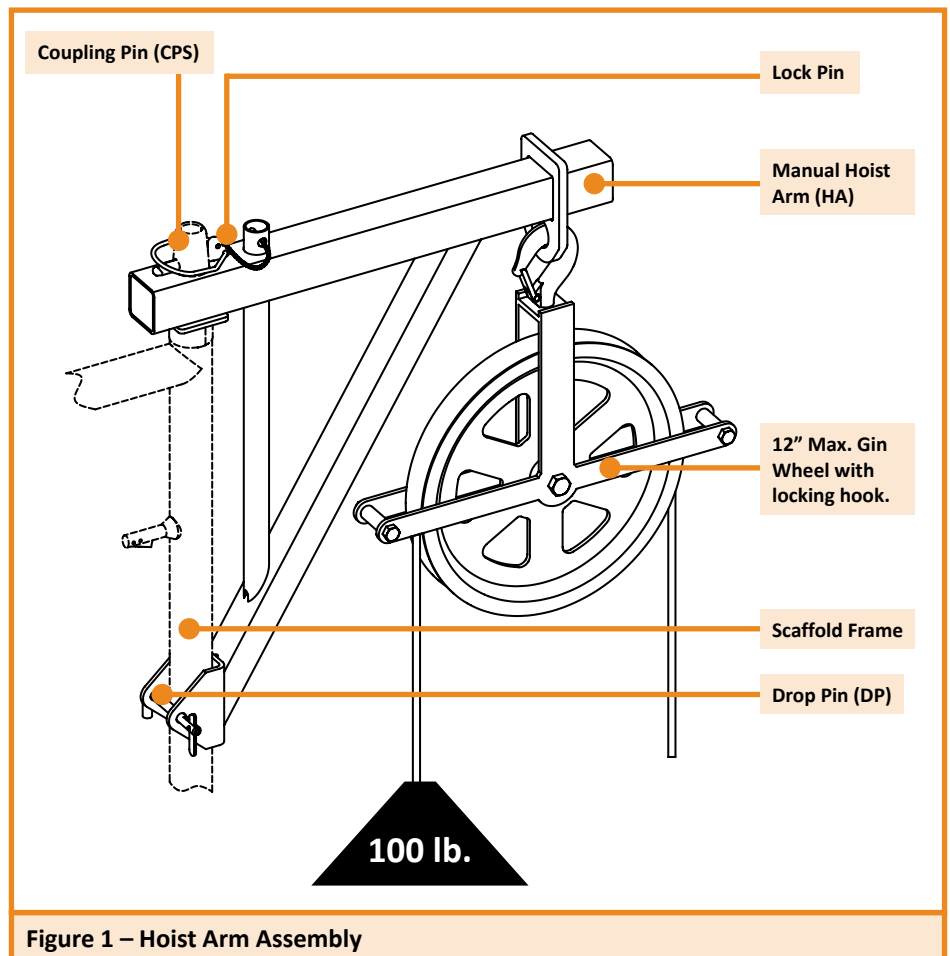

Figure 1 – Hoist Arm Assembly
5. Secure the manual hoist in place using included lock pin and Drop Pin (DP). See Figure 1.